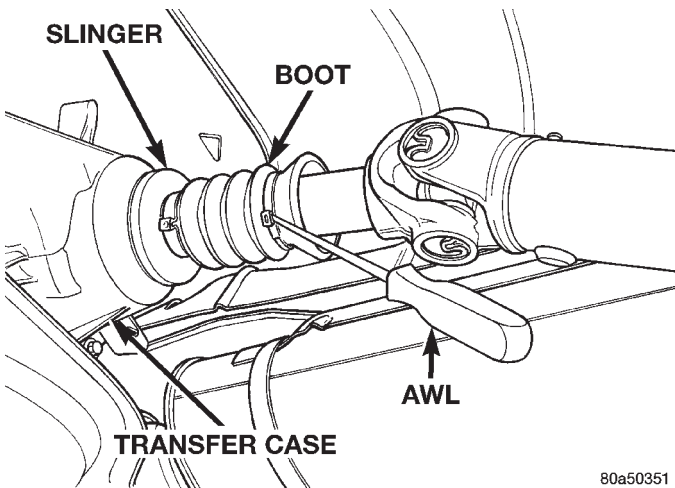

Fig. 9 Output Boot—Typical
(1) Remove output shaft boot. Spread band clamp that secures boot on slinger with a suitable awl. Then slide boot off shaft (Fig. 9).